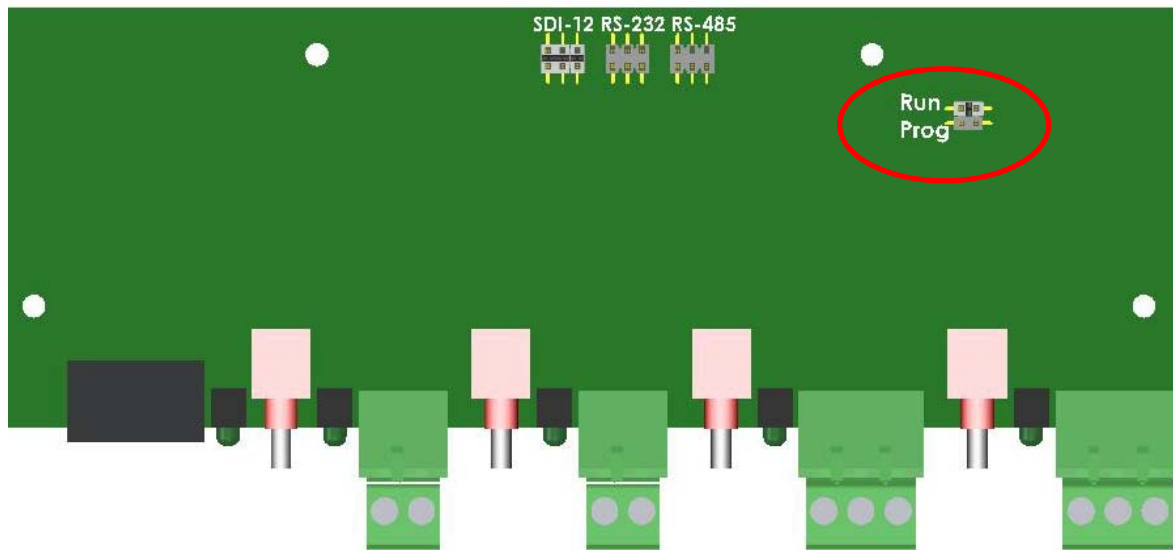

FIGURE 7. Program Mode Jumper
- Locate the program mode jumper and move the jumper from *Run* to *Prog* as shown in Figure 7.